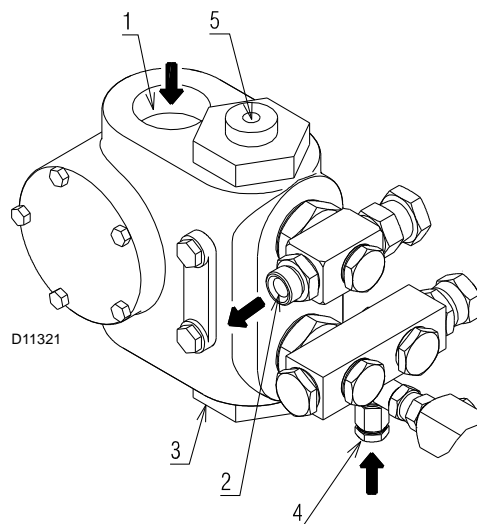

Fig. 22
- In order for self-priming to take place, the screw 4) on the pump (Fig. 22) must be loosened to bleed off the air contained in the suction line.
If the pump has been drained, fill it with fuel through the opening on the vacuumeter 3)(Fig. 22) prior to starting; otherwise, the pump will seize.
Key (Fig. 22)